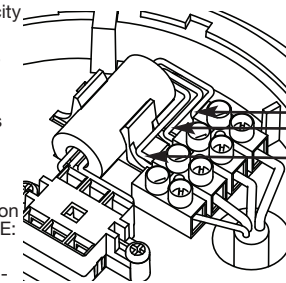

Fig 2.
1. Connect the brown (live) in the house wiring to connector Land the house blue wire (Neutral) to connector N. NO CONNECTION SHOULD BE MADE TO THE MAINS ELECTRICITY SUPPLY EARTH TERMINAL. TERMINATE HOUSE WIRING EARTH IN SPARE CONNECTOR MARKED E. See Fig 2